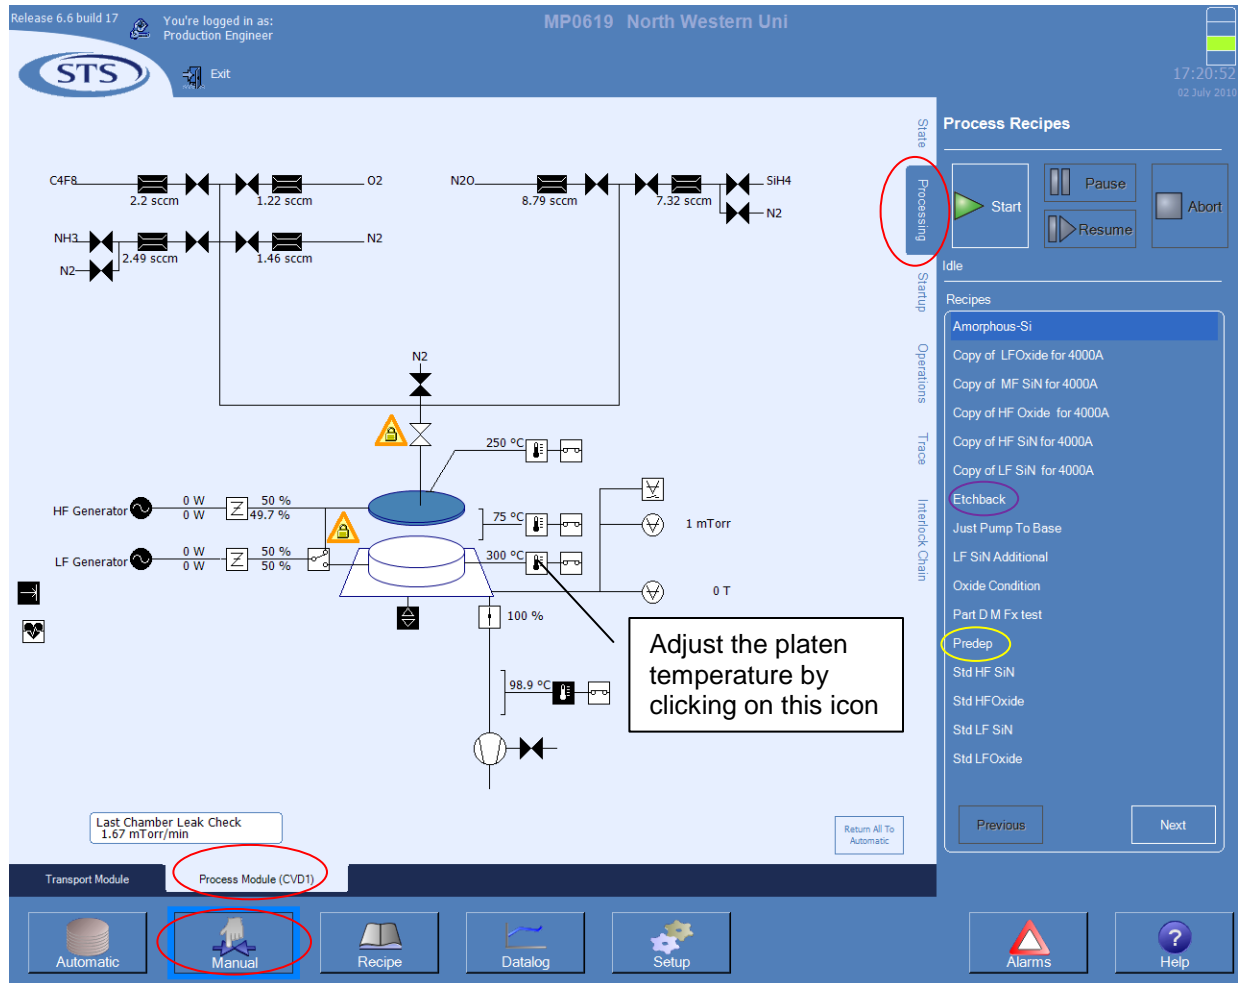

Figure 2: Running a process recipe.
- To display the screen shown in Figure 2 on the operation computer, select 'Manual', 'Process Module (CVD1)', and 'Processing' tabs in this order. These are circled in red.
- Adjust the platen temperature to the desired temperature for your depositions. To adjust, click on the heater icon (Figure 2) and enter the new value in the menu that shows up on the right side of the screen. Most commonly used temperature is 300°C.
- a) Go to the screen shown in Figure 2 (Manual, Process Module, Processing).
- Go to the screen shown in Figure 2 (Manual, Process Module, Processing).
- h) Now you can go back to the screen shown in Figure 2 and you will find your recipe listed with other recipes. You can select it and run it if desired.